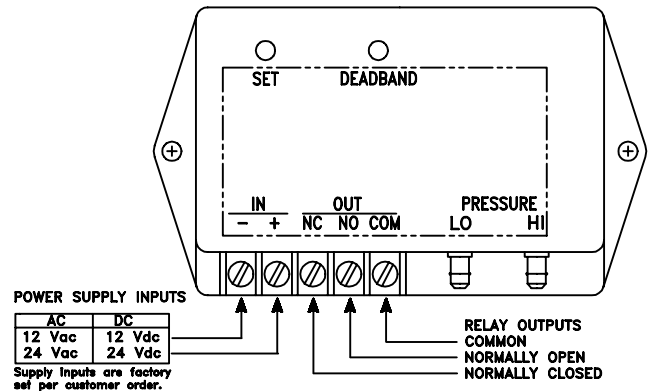

Figure 1
**NOTE:** Each switch is calibrated in the vertical position. It is recommended the switch be mounted in the vertical position, as viewed in Figure 1. Any adjustments to the setpoint or deadband should be performed with the instrument in the mounted position.
The power supply leads are connected to the two leftmost terminals (terminals 1 and 2) on the terminal strip. The relay terminals are accessed across terminals 3, 4, and 5, refer to Figure 1.